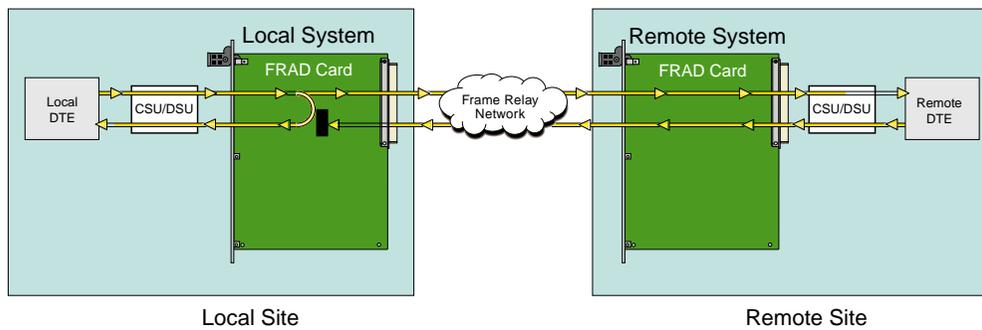
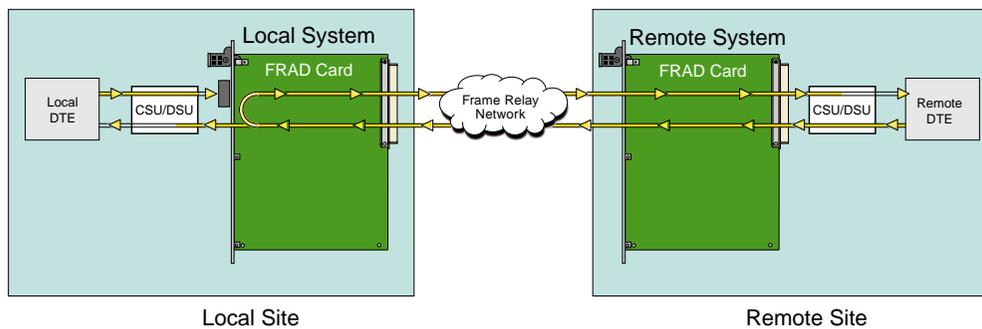

Figure 5-3. DTE Loopback
Figure 5-4. Network Loopback
The Loopback (LB) setting allows you to activate a number of different loopback options for RS232. The **off** option is the default setting. The **dte** (DTE) option (shown in Figure 5-3) loops data from the local DTE back to itself through the local FRAD card. The **net** (network) option is shown in Figure 5-4; it loops data back toward the distant DTE through the local FRAD card.